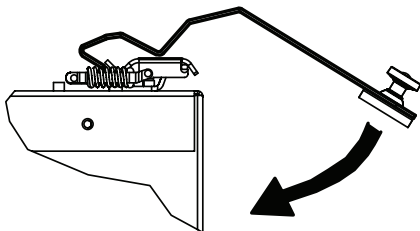

Figure 7 - Latch Opener
3. Hook opener over latch as shown in Figure 7. Swing the bottom of the opener down toward the door. You will not need to pull down.